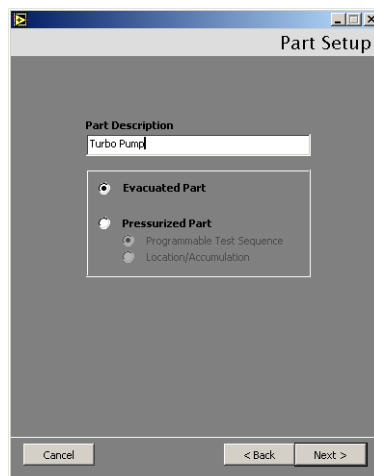

Figure 2-20 Part Setup
- ☐ **Edit Part** and Figure 2-20 appears from which you can change the configuration of the existing part. Proceed to step 6.